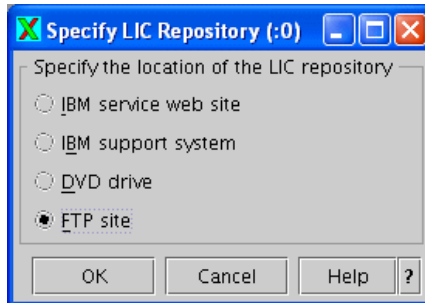

Figure 38 Specify the microcode location
3. We downloaded the microcode image to an FTP server, so we specify as LIC Repository **FTP Site** (Figure 38).